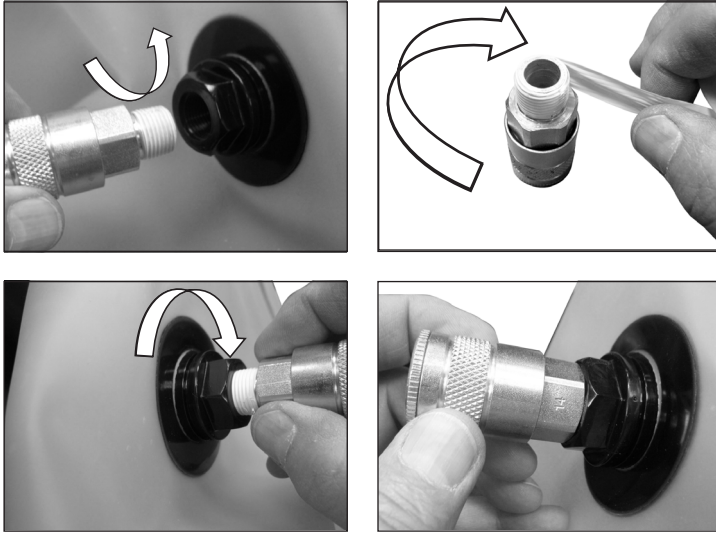

Figure 5.
5. Remove the quick connect fitting by turning counterclockwise with a 7/8" wrench while holding the liner outlet fitting with a 1" wrench. Apply 2 wraps of teflon tape around the quick connect fitting threads in a clockwise direction. Install quick connect fitting in new liner by turning clockwise with a 7/8" wrench while holding the liner outlet fitting with a 1" wrench. Quick connect fitting should be tightened snug against the face of the liner outlet fitting. (See **Figure 5.**)